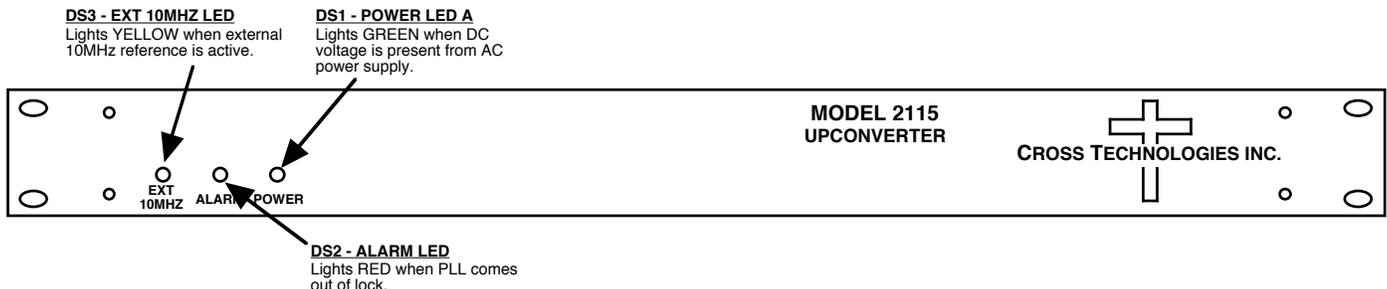

FIGURE 2.2 2115-140 Front Panel Controls and Indicators
4. Be sure DS1 (green, DC Power) is on and DS2 (red, Alarm) is off (Figure 2.2).
6. If EXT is selected or AUTO is selected and there is a 10MHz, 3 dBm signal at J2, check that DS3 (yellow, Ext 10MHZ) is on (Figure 2.2).